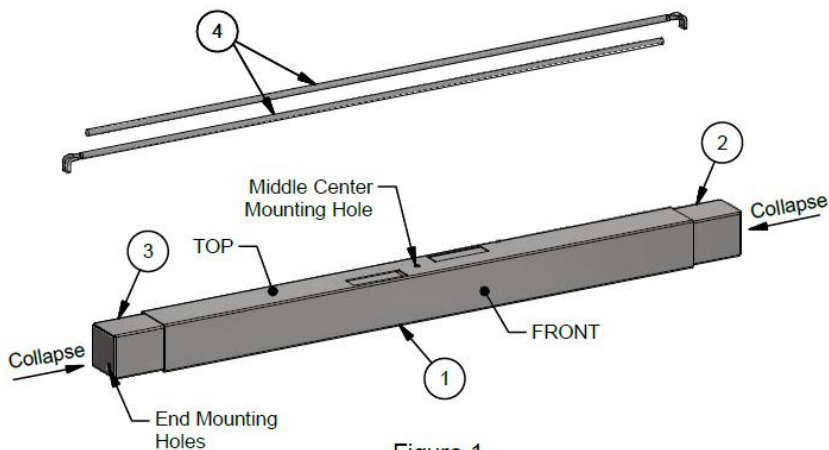

Figure 1
Verify that the two Rods ④ are removed from the system. Collapse the unit completely by sliding the Side Frames ② and ③ toward the center. (Figure 1)
1. Place the unit in the Fireplace Opening with the Center Mounting Holes facing upwards and the Front plate facing outward flush with face of the Fireplace. (Figures 1, 3a, 3b)